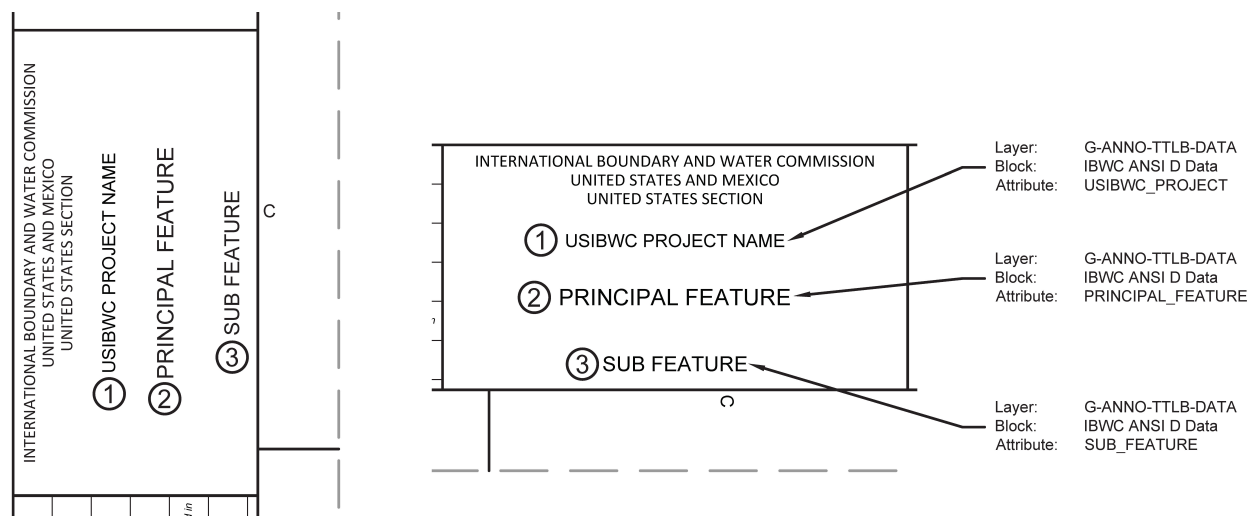

Figure 23-USIBWC Border: Title Block
4.3. TITLE BLOCK (FIGURE 23)
4.3.A. Figure 23, Item 1 - USIBWC Full Project Name (1 line only)
4.3.B. Figure 23, Item 2 - Principal Feature (2 lines allowed)
4.3.C. Figure 23, Item 3 - Sub Feature (2 lines allowed)